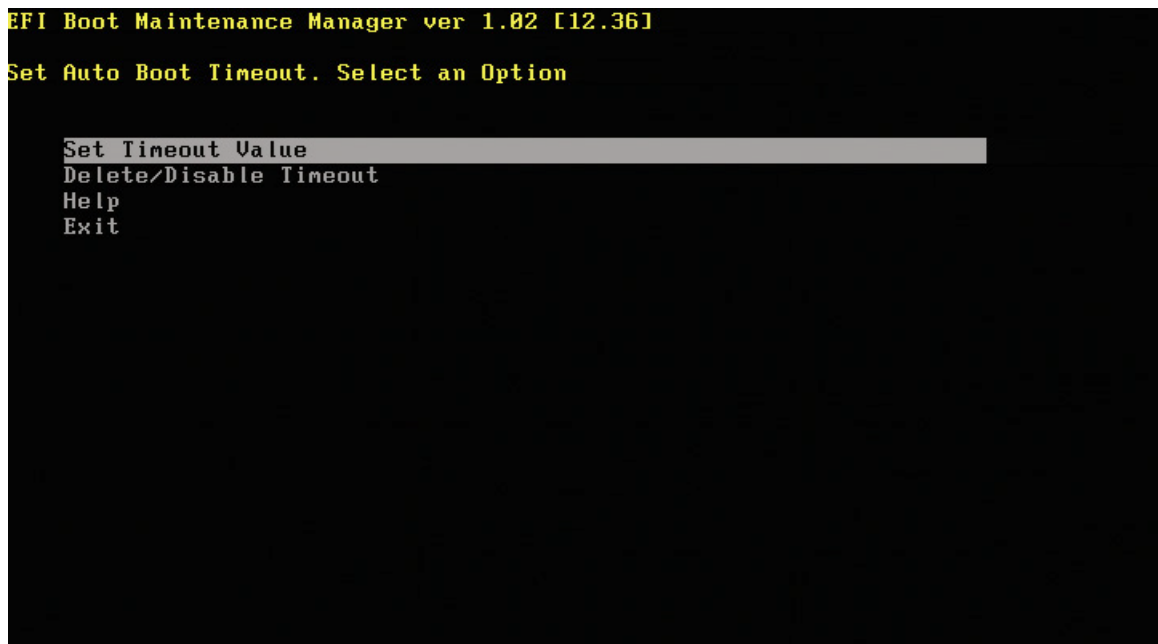

Figure 3-24 Set Auto Boot Timeout Screen
If you select **Set Auto Boot Timeout** in the EFI boot maintenance manager main menu (as described in “EFI Boot Maintenance Manager” on page 55), you can set the timeout value before the operating system (OS) automatically boots. Figure 3-24 shows a typical **Set Auto Boot Timeout** screen.